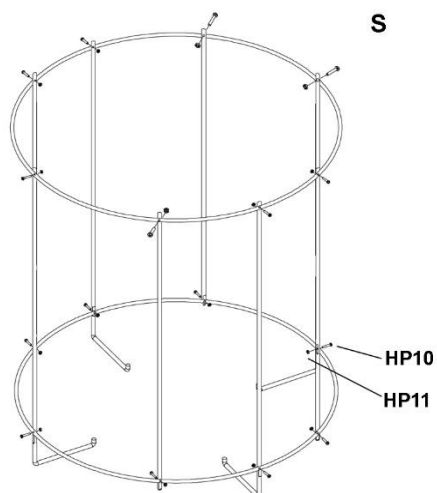

Figure 13
18. Screw the short and long frame supports into the hoops in alternating manner, as shown in Figure 13. Secure with sixteen pan head screws and hex nuts (HP10,HP11). (Note: The bends on long supports point inward as shown.)